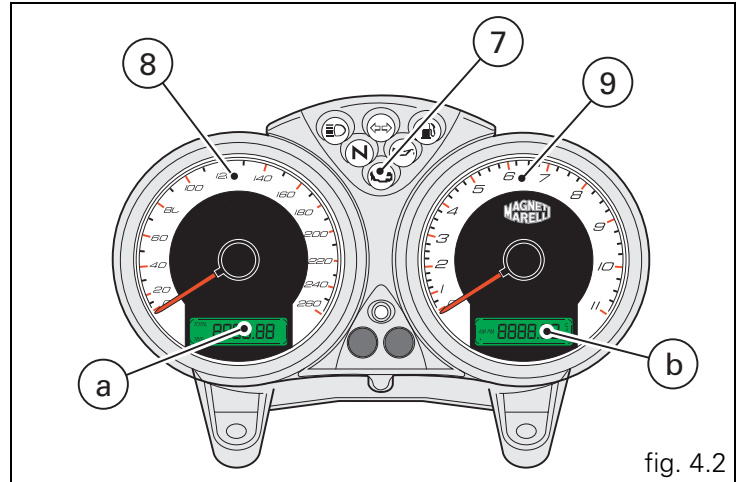
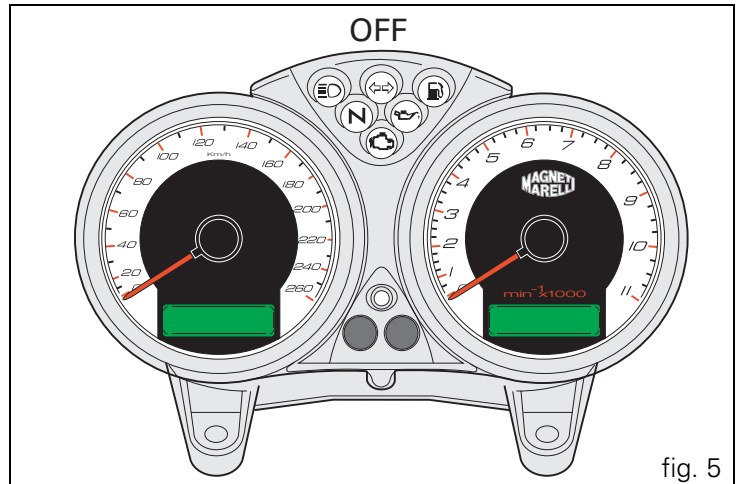
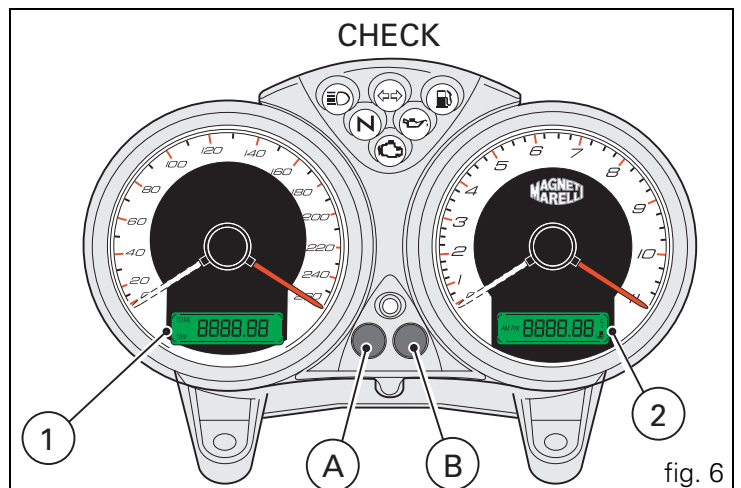

fig. 4.2
fig. 5
fig. 6
When the engine is switched on (key turned from **OFF** to **ON**), the instrument panel checks all instruments (dials, display, warning lights), see (fig. 5 and fig. 6).
By pressing button (A, fig. 6) with the key turned to **ON**, you can cycle between display of the trip counter and the odometer and, if the fuel level warning light is on, the fuel reserve trip counter.
If button (A, fig. 6) is held pressed for more than 2 seconds while the **TRIP** (trip meter) is active, the display is reset (LCD 1).
If button (B, fig. 6) is pressed with the ignition key at **ON**, the display shows the clock and the oil temperature.
Press (B, fig. 6) for at least 2 seconds and the time will be shown in display (b, fig. 4.2).
Select AM/PM by pressing button (A, fig. 6). Press button (B) to select the hour setting function. Press (A) repeatedly to change the hour indication. Press button (B) to change to the minute setting function.
When the fuel level warning light illuminates the word "FUEL" appears on display (2, fig. 6) and the fuel reserve trip counter function will be activated and indicate on display (1, fig. 6) the number of kilometres travelled in reserve preceded by the letter 'F' (FUEL).
The "MAInt" message on display (1, fig. 6) indicates that the service interval has been reached: it will be displayed for 5 seconds each time the ignition is switched **ON**. When the "MAInt" message is displayed, contact an authorised dealer or service centre.
Press button (B, fig. 6) within 5 seconds after the ignition key is turned to the **ON** position to adjust the brightness of the backlight. The brightness changes at each press of the button.